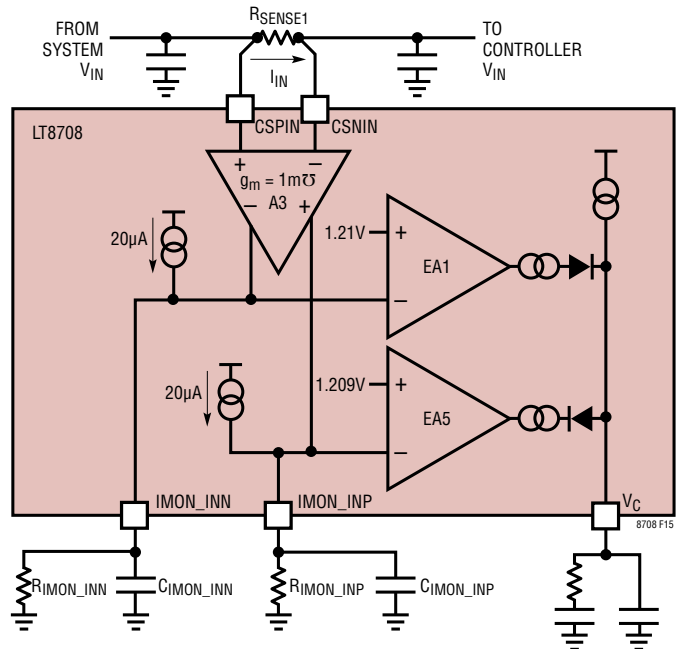
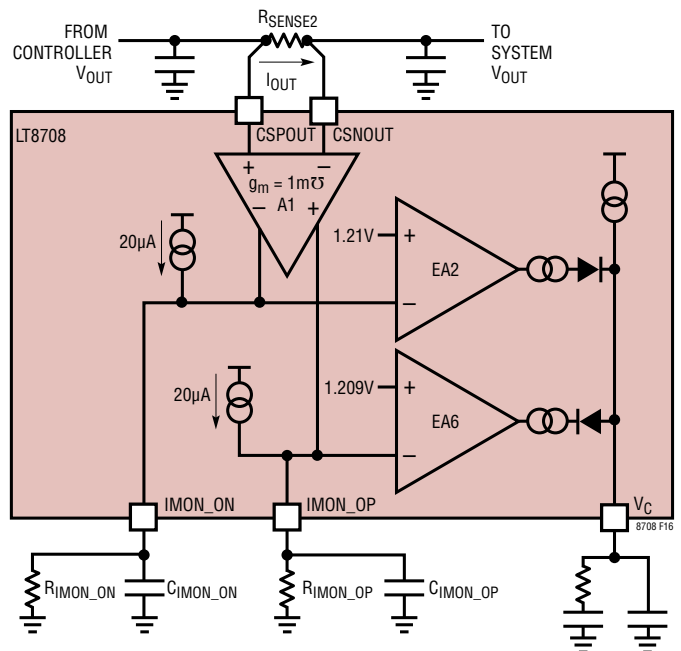

Figure 15.  $I_{IN}$  Current Monitor and Limit
Figure 16.  $I_{OUT}$  Current Monitor and Limit
The LT8708 has independent  $I_{IN}$  and  $I_{OUT}$  current monitors that can monitor and limit the respective currents in both positive and negative directions. Figure 15 and Figure 16 illustrate the operation of the current monitor circuits.
The remaining discussion refers to the  $I_{IN}$  current monitor circuit of Figure 15. All discussion and equations are also applicable to the  $I_{OUT}$  current monitor circuit, substituting pin and device names as appropriate.
**Current Monitoring:** The  $IMON\_INP$  and  $IMON\_INN$  pins can be used to monitor  $I_{IN}$  in the forward and reverse directions, respectively. When configured as shown in Figure 15, the  $IMON\_INP$  and  $IMON\_INN$  voltages are proportional to  $I_{IN}$ .  $V_{IMON\_INP}$  is proportional to the positive  $I_{IN}$  current, increasing as  $I_{IN}$  becomes more positive.  $V_{IMON\_INN}$  is proportional to the negative  $I_{IN}$  current, increasing as  $I_{IN}$  becomes more negative.
**Current Limiting:** As shown in Figure 15,  $\text{IMON\_INP}$  voltage that exceeds  $1.209\text{V}$  (typical) causes  $V_{\text{C}}$  to reduce, thus limiting the forward  $I_{\text{IN}}$  and inductor currents.  $\text{IMON\_INN}$  voltage that exceeds  $1.21\text{V}$  (typical) causes  $V_{\text{C}}$  to increase, thus limiting the reverse  $I_{\text{IN}}$  and inductor currents (see the Error Amplifiers section).
Current sense filter(s) should be connected as shown in Figure 16. Note that resistance in series with CSNIN and CSNOUT is not recommended. As described in the Topside MOSFET Driver Supply (CB1, DB1, CB2, DB2) section, the CSNIN and CSNOUT pins are also connected to the Boost Cap Charge Control block (also see Figure 1) and can draw current under certain conditions. In addition, the same CSNIN and CSNOUT current sense pins can draw bias current under normal operating conditions, while CSPIN and CSPOUT draw zero (typical) bias current. A time constant lower than  $10\mu\text{s}$  is recommended for the filter(s).